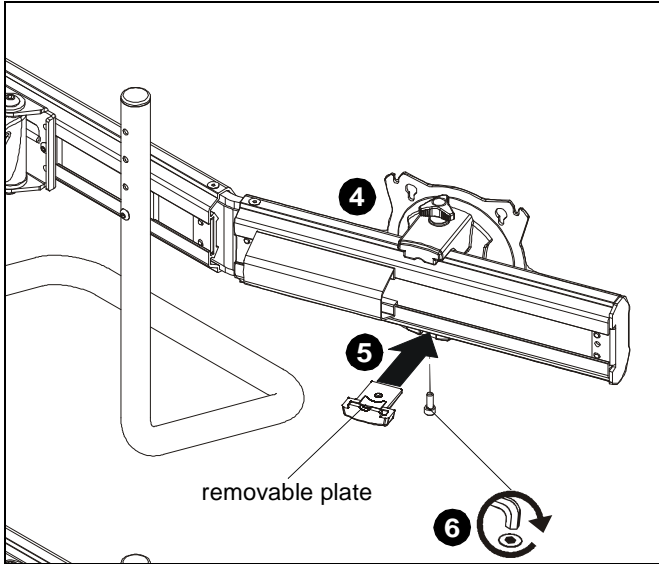

Figure 18
4. Place faceplate assembly on array arm at desired mounting position. (See Figure 18)
5. Slide removable plate back into slot at bottom of faceplate assembly. (See Figure 18)
6. Reinstall socket head cap screw removed in Step 1 to secure faceplate assembly to array arm. (See Figure 18)